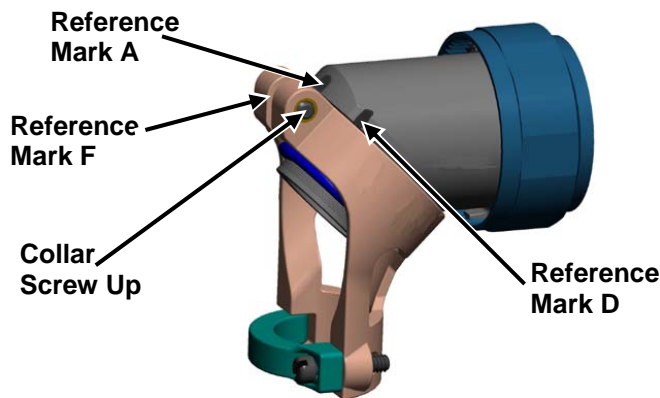

Figure 10. 90° Strain Relief Alignment
- a. Turn the collar screw on the strain relief up as shown in Figure 10, before matching the tabs on the backshell with the tab ways on the strain relief.
- c. If using 45° left, rotate the strain relief clockwise (cw) to align the reference marks F to D. See Figure 10 and Table 2.
- d. If using 90°, rotate the strain relief counter clockwise (ccw) to align reference marks F to A, as shown in Figure 10. See Table 2.